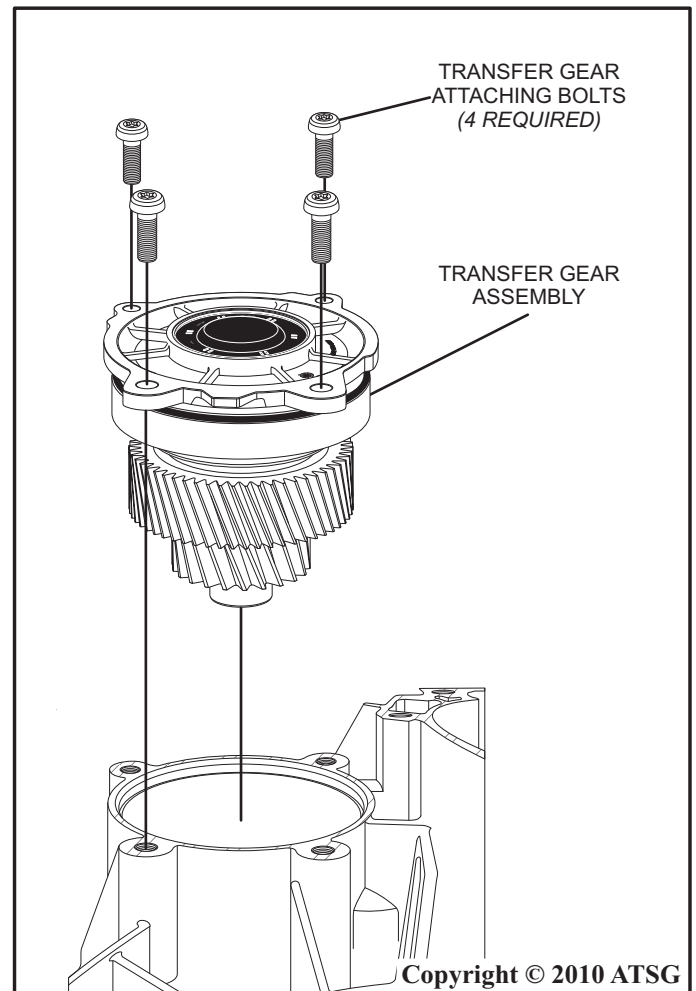

Figure 2
3. Using a #40 Torx bit, remove the transfer gear assembly attaching bolts (4 required) as shown in figure 2.
4. Remove the transfer gear assembly from the transaxle case by lifting straight up as shown in figure 2.